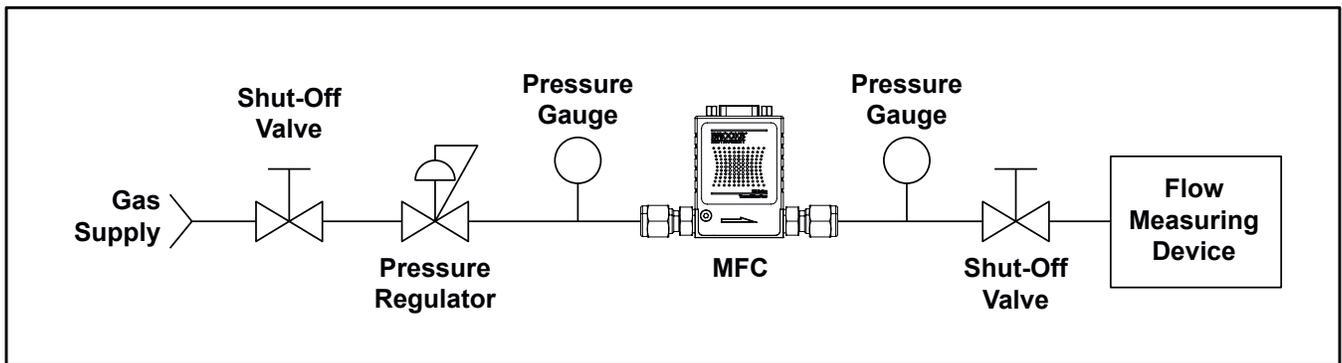

Figure 4-1 Bench Troubleshoot Circuit
1. Establish a proper connection between the Brooks mass flow instrument (using Figure 4-1 as a reference). Switch on the power and allow the instrument to warm-up for 5 minutes. Set the setpoint to zero. Do not connect the device to a gas source yet. Observe the output signal and, if necessary, perform the zero adjustment procedure (See Section 3-4 zeroing function). If the output signal does not zero properly, please contact Brooks Instrument.